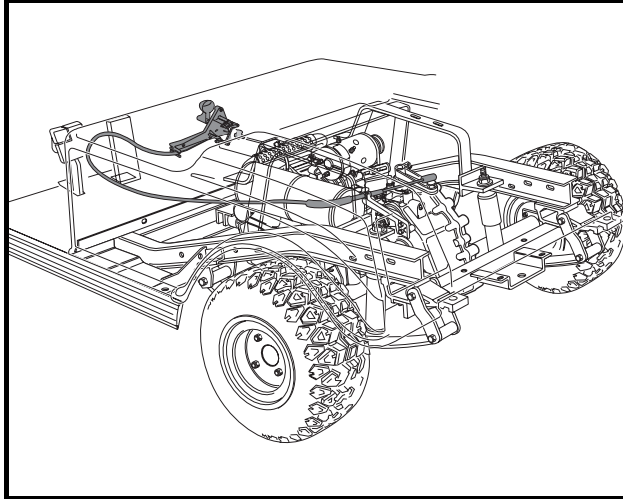

Figure 18-53 Forward/Reverse Cable Routing
1. From the Forward/Reverse shifter, route the cable toward the driver side of the vehicle so it lies against the side of the front body, turns 90° and passes to the driver side of air intake box, over the battery, beside the fender and then turns again to connect with the shifter arm on the transaxle (**Figure 18-53, Page 18-20**). Make sure cable does not touch muffler.